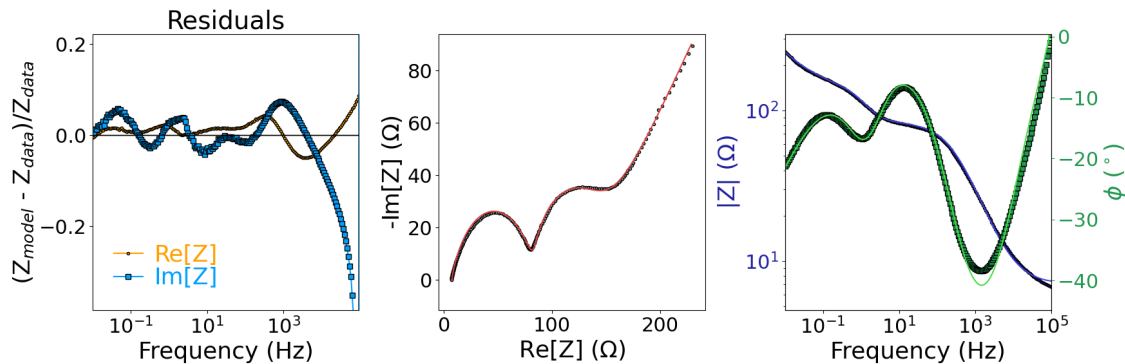

Figure 34: Plots in the refinement window before any refinement has been done.
14. Now, it is time to move on to automatic refinement via **Calculate>Advanced refinement....** This will open a window with plots as in Figure 34. In the win-